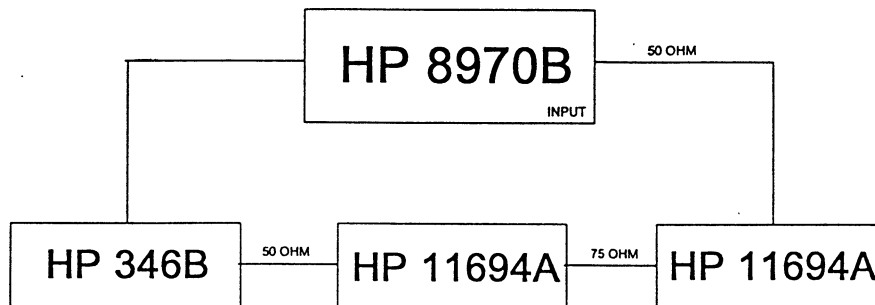

Figure 1-1.
3. Test Set Up. Set Jump and connectors 1 - 2, 3 - 4 and 6 - 7. Configure the test equipment as shown in figure 1-1 below.